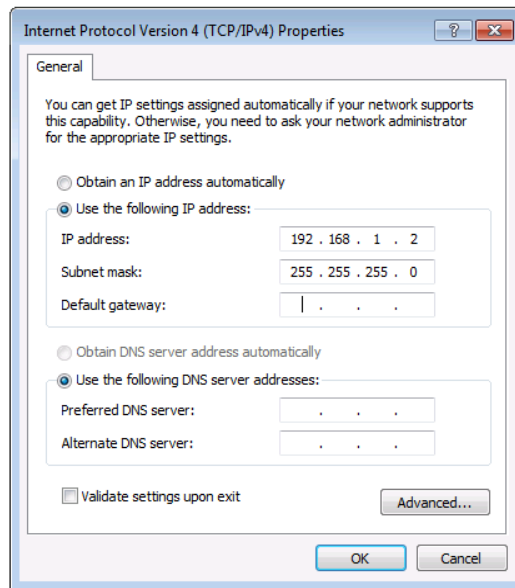

Figure 10: Internet Protocol Properties Window
- 6. Select **Use the following IP Address** for static IP addressing and fill in the details as shown in Figure 10.